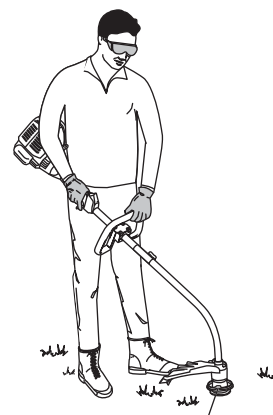

Fig. 2
2. While holding the unit in the operating position (Fig. 2), position the D-handle to the location that provides you the best grip.